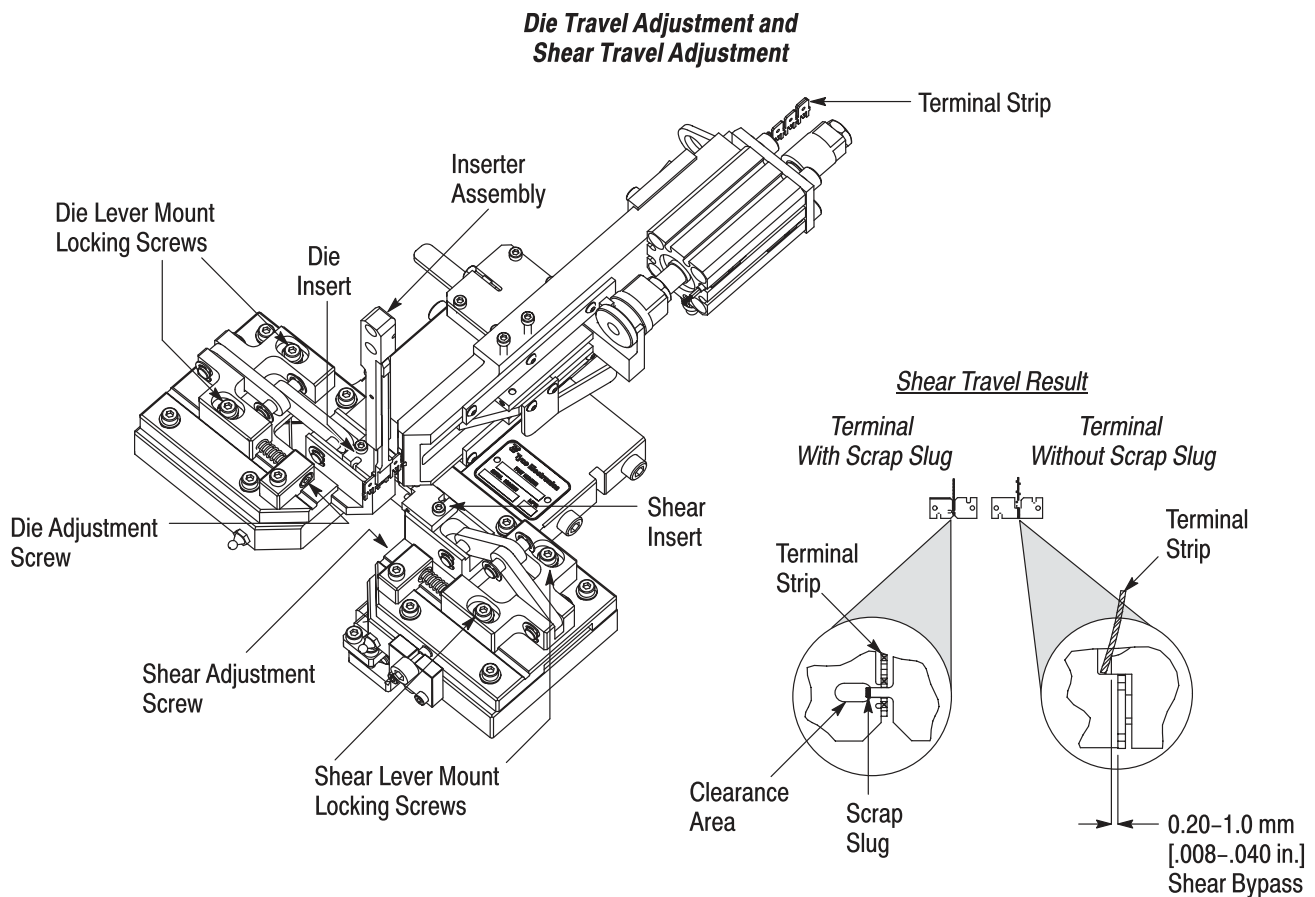

Figure 13
5.7. Die Travel Adjustment (See Figure 13)
5.8. Shear Travel Adjustment (See Figure 13)
- b. for terminals that do not produce a scrap slug, turn the screw one additional rotation after the terminal strip is sheared. The shear bypass should be within the dimension given in Figure 13.